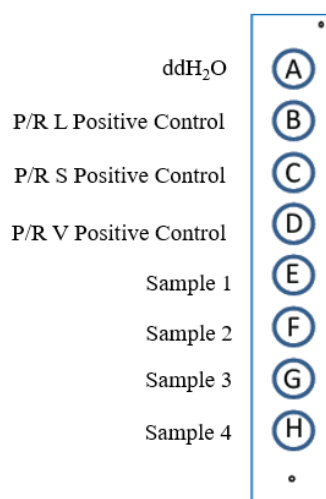

Figure 2. Sample and control distribution in the 8-tubes strips.
- e. **ADD** 5 μ L of each cDNA templates and positive control as well as ddH₂O into PCR mix. A Layout example is shown in **Figure 2** (take 8-tubes strips for example).